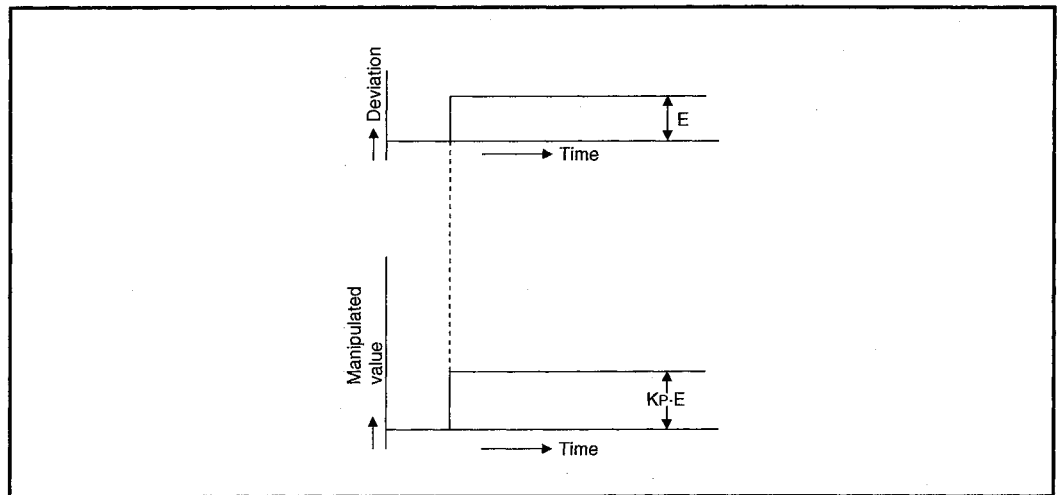

Fig. 1.7 Proportional action for step response
- (3) The proportional action for the step response when the error value is constant is shown in Figure 1.7.
- (4) The manipulated value changes between -5.0% and 105.0%. As the  $K_p$  increases, the manipulated value for the same error value becomes larger, and the corrective action becomes stronger.
- (5) The proportional action will generate an offset (remaining deflection).